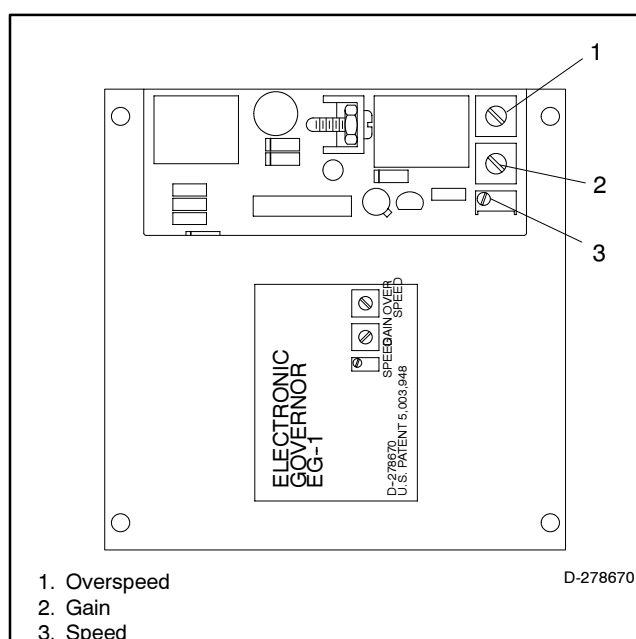

Figure 5-65 Governor Adjustments
11. Adjust the electronic governor **speed** potentiometer to obtain a full load engine speed of 60 Hz (1800 rpm) on 60 Hz models and 50 Hz (1500 rpm) on 50 Hz models. See Figure 5-65. Turn potentiometer clockwise to increase frequency and counterclockwise to decrease frequency.
Note: The Kohler electronic governor has an overspeed potentiometer on the circuit board. To avoid unwanted shutdowns verify that the governor and the controller are both set for the same shutdown setting. See Figure 5-65 for potentiometer location.